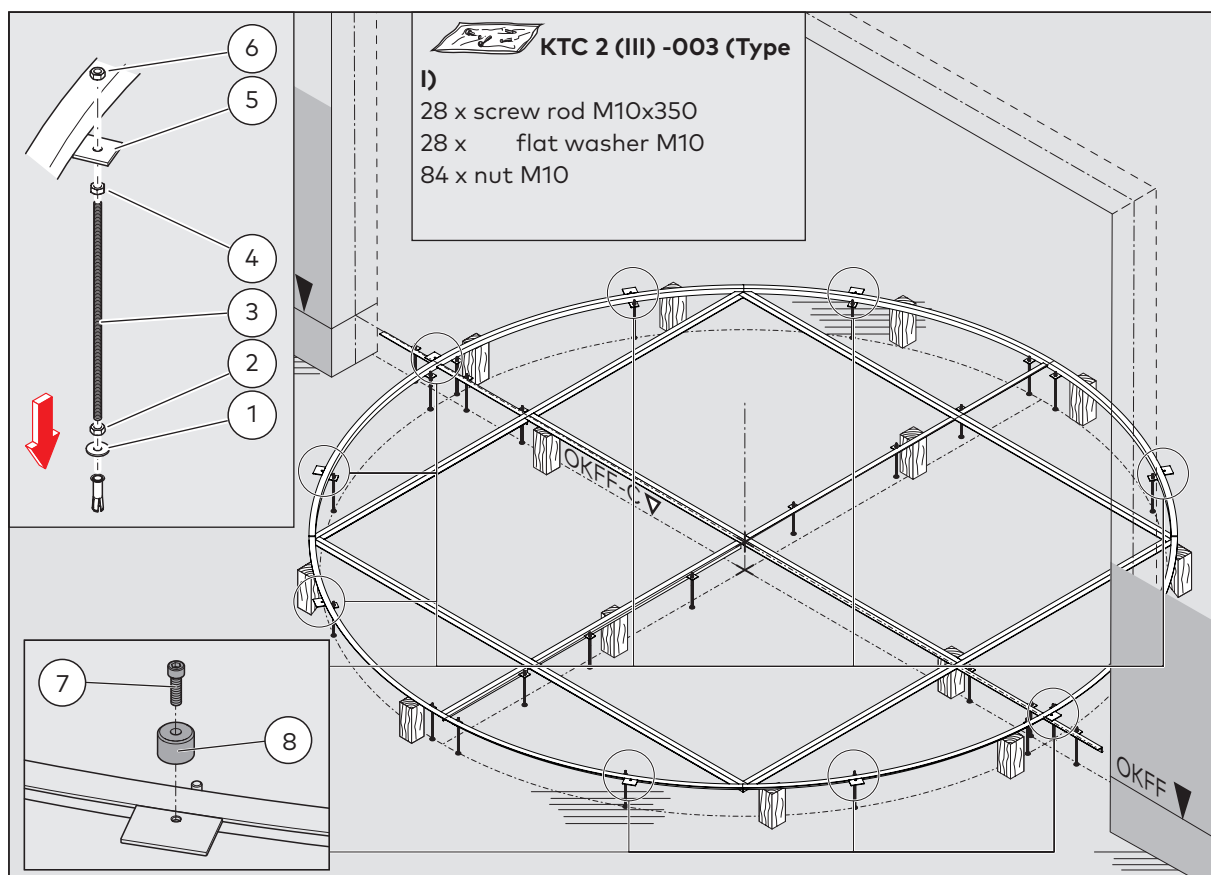

Fig. 13 Mounting the floor ring with threaded rods
10. Screw threaded rods (Fig. 13/3) i into the dowels.
11. Place washer (Fig. 13/1) onto the threaded rod from above.
12. Screw the nuts (Fig. 13/2) onto the threaded rods to counter the dowels.
13. Screw the nuts (Fig. 13/4) onto the threaded rods.
15. Fit the floor ring lugs (Fig. 13/5) onto threaded rods.
16. Screw the nuts (Fig. 13/6) onto the threaded rods.
18. Secure the floor ring with the third nut (Fig. 13/6) (leveling error ± 2 mm).
20. Fasten the rubber buffers (Fig. 13/8) with screws (Fig. 13/7) to the floor ring.